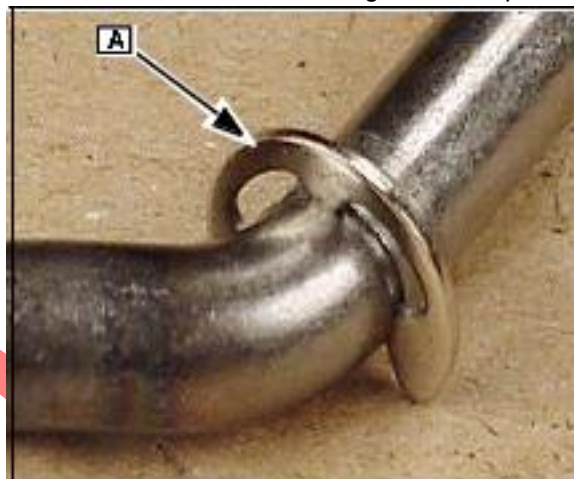

Fig. 11
Install E-clip ([A] Fig. 11) on governor crank and push crank up through cylinder housing and install thrust washer. Make sure the paddle of the governor shaft rests on the face of the governor cup.
Install E-ring (if equipped) in groove on governor crank (F). (Refer to Fig. 11).